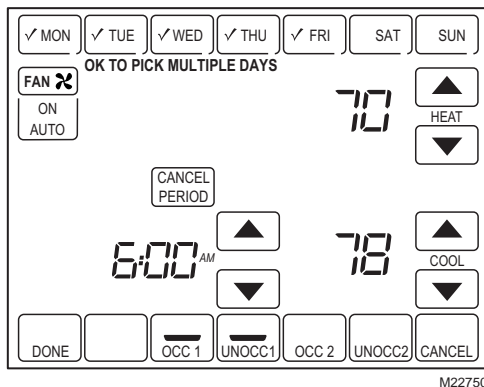

Fig. 37. Screen to edit existing settings.
5. Press Up and Down to modify time and temperatures from this screen. (See Fig. 37.)